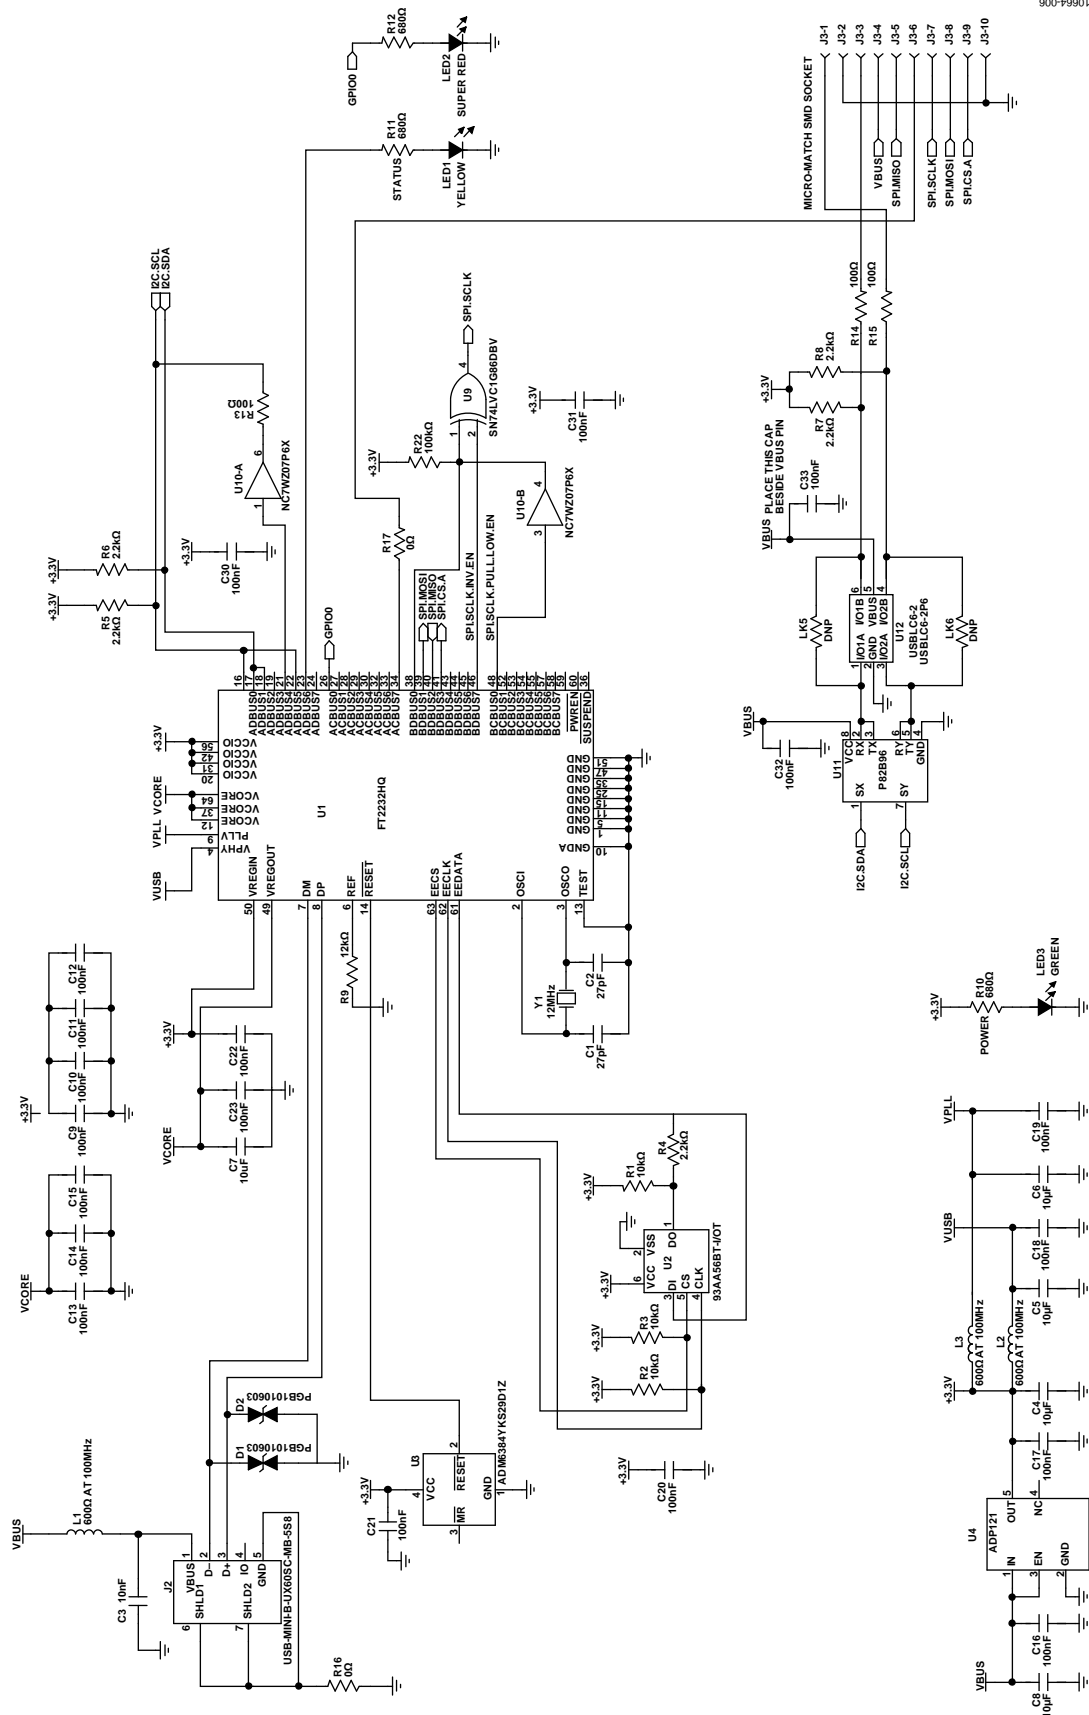

Figure 6. USB-SDP-CABLEZ—USB-to-Serial Interface
- USB-SDP-CABLEZ—USB-to-serial interface (see Figure 6).